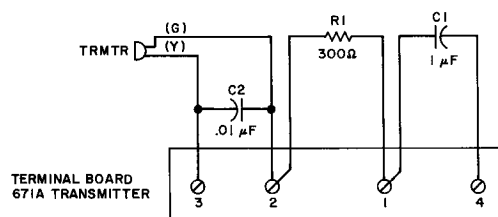

Fig. 7—671A (MD) Transmitter
- 671A consists of an AC1 transmitter unit and used as auxiliary station in conference arrangement, encased in a plastic housing; no cord is provided (Fig. 7).